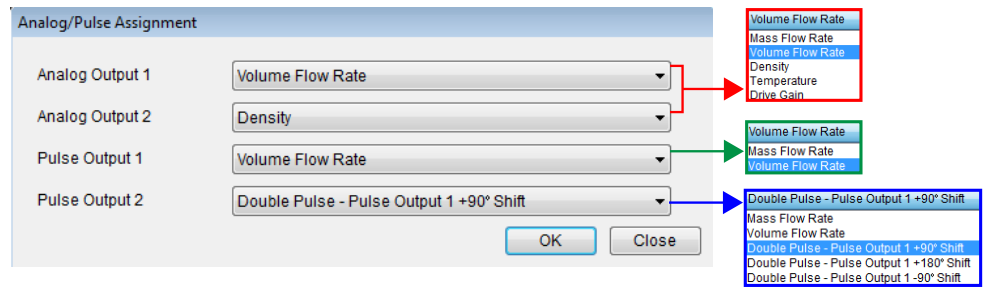

Figure 2.2—Analog/Pulse Assignment dialog
1. Click **Setup>Outputs>Analog/Pulse Assignment** and select the desired parameter from the dropdown menu provided in the *Analog/Pulse Assignment* dialog (Figure 2.2, page 6).